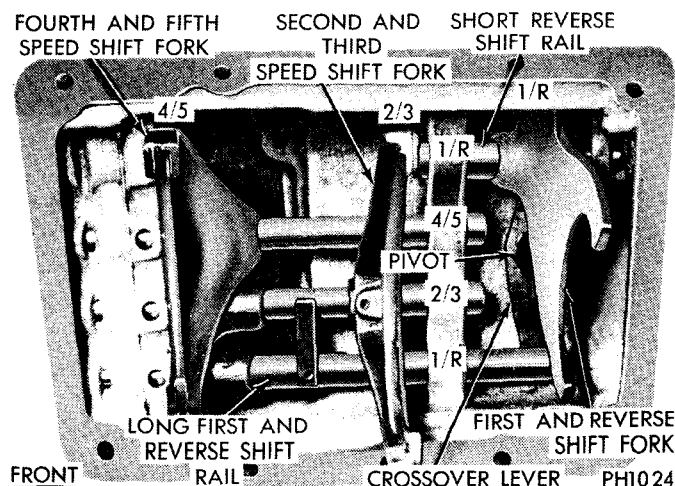

Fig. 4—7500 Cover (Mark Rail and Fork Position)
(1) Mount the cover in a bench fixture or soft-jawed vise. Mark each fork and rail for location at assembly (Fig. 4).
(2) Place shift forks and rails in neutral. Remove spiral pins from shift forks and shift lugs. Spiral pins may be removed by using an "easyout" installed in a tap handle or improvised holder.
(3) Drive the short, first-reverse shift rail toward the rear and out of the transmission cover. Remove fork.
(4) Remove first-reverse shift rail pivot bolt and nut; remove crossover lever.
(5) Drive fourth-fifth and second-third speed shift rails forward and out of transmission cover, then remove the first reverse shift rail in the same manner. **Place a shop towel over shift rails while driving the shift rails out, to prevent loss of poppet balls and springs.**
(6) Remove the four interlock balls and pin from the bore through the width of the cover. To make sure the pin and balls are out, shake the cover or jar the cover sharply on a block of wood.